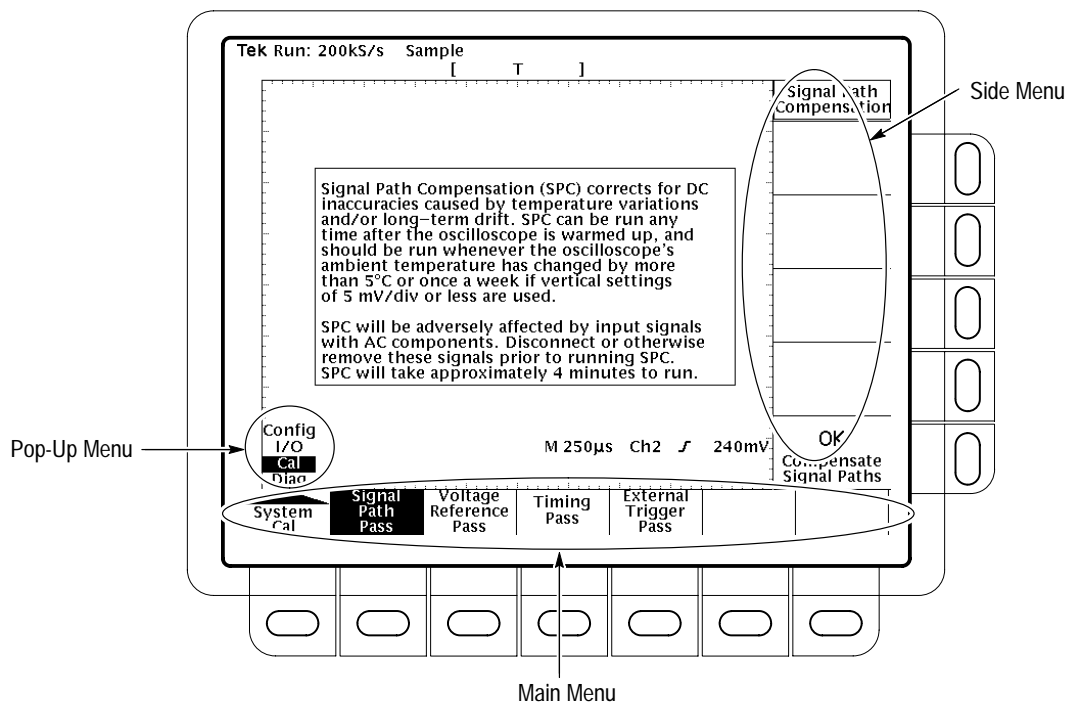

Figure 4–1: Menu locations
- Refer to Figure 4–1: “Main menu” refers to the menu that labels the seven menu buttons under the display. “Side menu” refers to the menu that labels the five buttons to the right of the display. “Pop-up menu” refers to a menu that pops up when a main menu button is pressed.